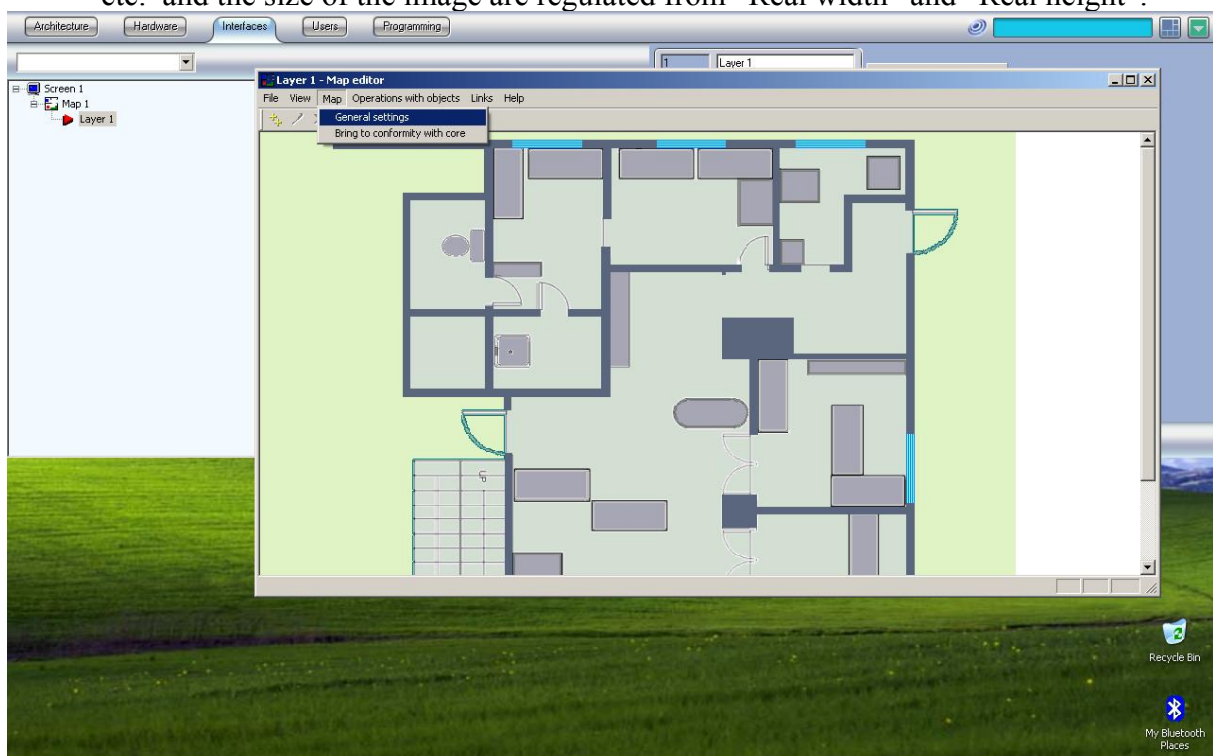

fig.21
5) From menu “Map → General settings “you can load the appropriate draft (fig. 21). The files that can be applied for image are of different types - .bmp, .gif, .jpg etc. and the size of the image are regulated from “Real width” and “Real height”.